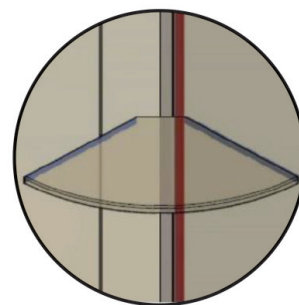

FIG 28.
- After 24-48 hours remove stabiliser blocks (**FIG 28**).